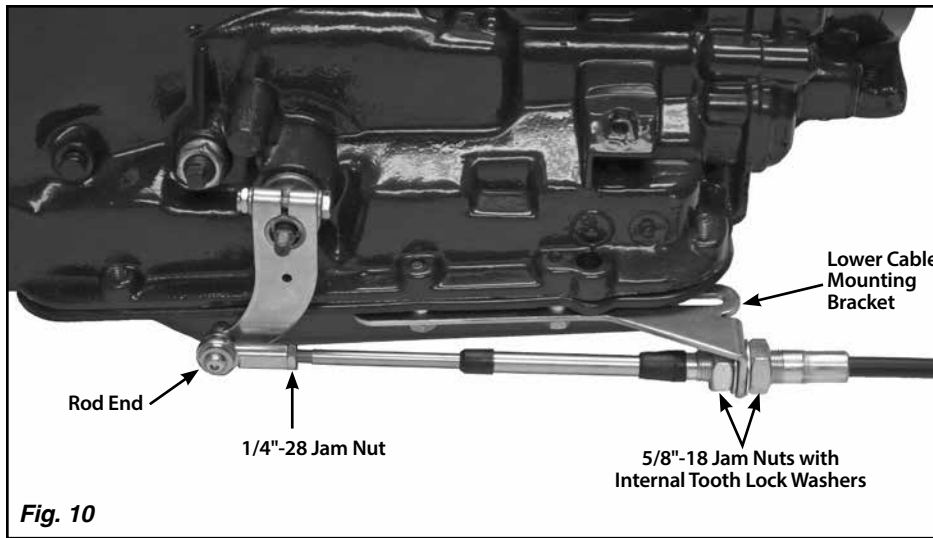

Fig. 10
Step 15: Attach the rod end at the transmission to the trans arm using a 1/4"-28 x 1" button head bolt, flat washer, rod end spacer, and nylock nut. The rod end will be positioned on the outside of the trans arm, away from the transmission. The rod end spacer goes in between the rod end and the trans arm. The button head bolt can be installed from either direction, but make sure the rod end is sandwiched between the flat washer and the rod end spacer. **Fig. 10 & 11**